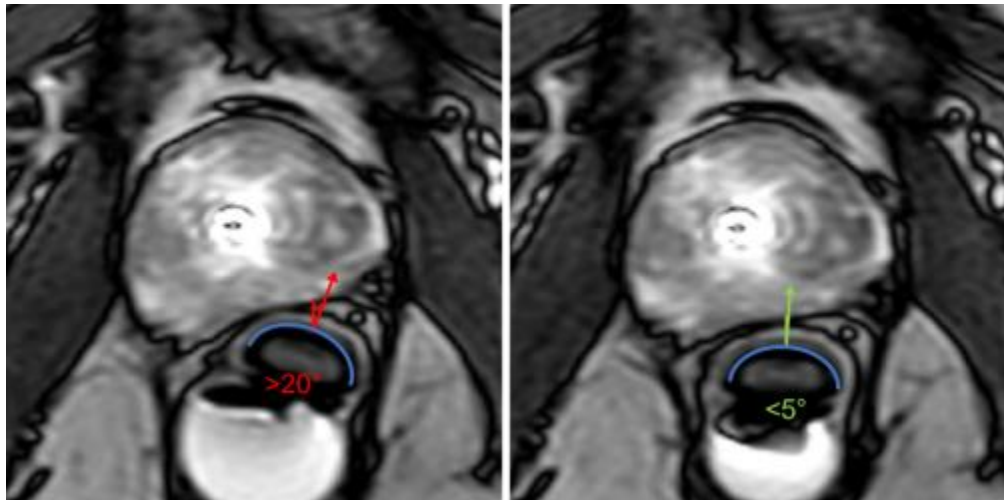

Figure 31: Axial images depicting ECD oriented incorrectly (left, rotated more than 20 degrees) and correctly (right, facing up towards the prostate)
- b. The orientation of the cooling window should face the prostate (anterior), as confirmed on the axial MRI (Figure 31).